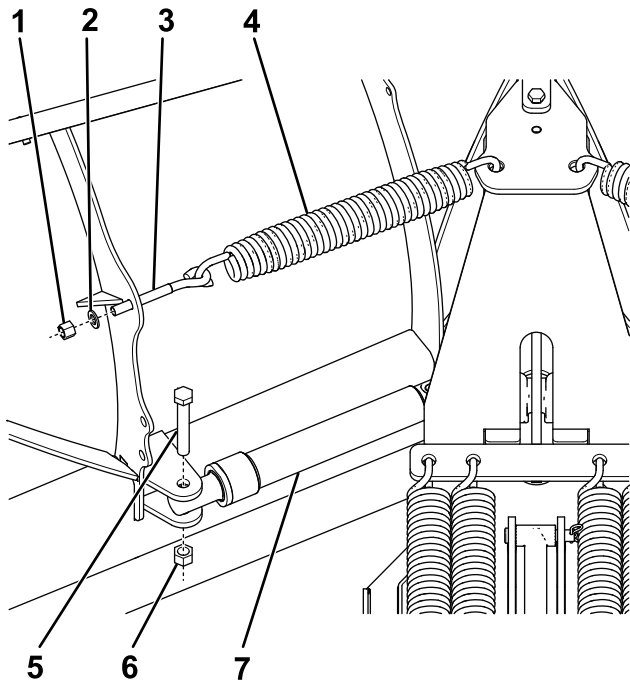

Figure 9
- Hook the 2 return springs through the holes on the top of the blade center (Figure 9).
- Hook the other ends of the return springs to 2 eyebolts (Figure 9).
- Insert the threaded end of the eyebolts through the holes on the plow blade and secure them using 2 washers (1/2 inch) and 2 self-locking nuts (Figure 9).
- Secure the 2 angle cylinders to the blade wings using a bolt (5/8 inch) and top locknut (Figure 9).